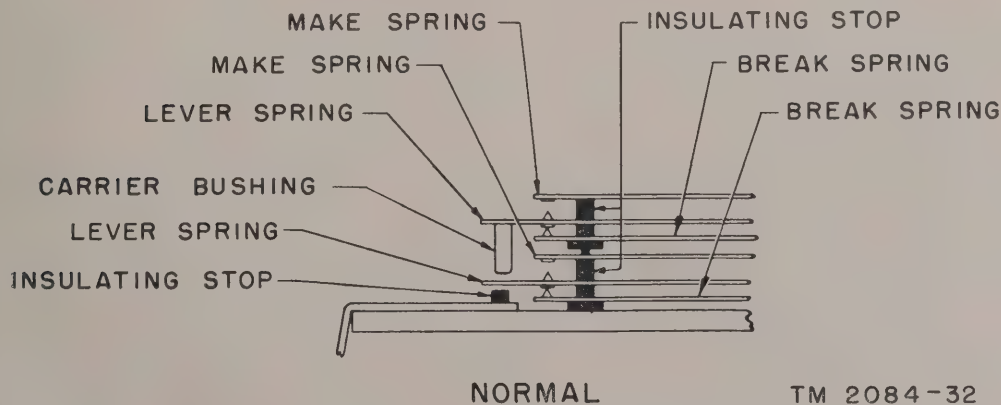

Figure 30. Multiple spring stack, normal position.
4. *Multiple unit stacks (fig. 30).* The preceding rules apply to these assemblies. For example, the lever spring normally should be separated from the carrier bushing as it is from the armature stop when there is a break contact. When there is no break contact, the lever spring should be tensioned against the bushing.
1. *Adjusting spring tension.* Spring tension requirements are shown in terms of gram pressure in relay tables. The gram rating specified is the minimum required to produce sufficient contact pressure to keep the contacts clean and to prevent arcing and pitting. These pressures may be increased, if needed, to meet specified current-flow operating requirements. The tension tests are made by applying the gram gage as near as possible to the contact of the spring being tested. The spring should not break contact before its required gram pressure is indicated on the gage. To change spring tension, use No. 58 or 60 Kellogg spring adjusters and apply close to the fixed end of the spring (fig. 30). Ordinarily only a slight pressure is needed. Duck-billed pliers with the ends filed thin and parallel can be used as a substitute adjuster when springs are accessible from the side. Too much or too frequent bending tends to crystallize the spring and destroy its flexibility.